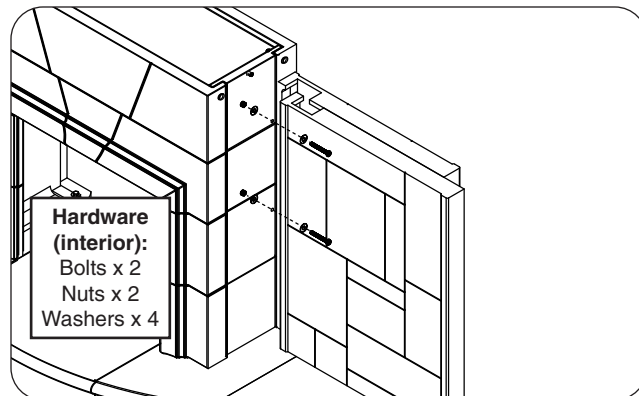

Fig. 26-2 Assemble front side-wall (skip if n/a)
3. Place the front side-wall piece beside the fireplace body as shown. Carefully align the pilot holes, and repeat the hardware installation process (interior hardware kits). See Fig. 26-2.